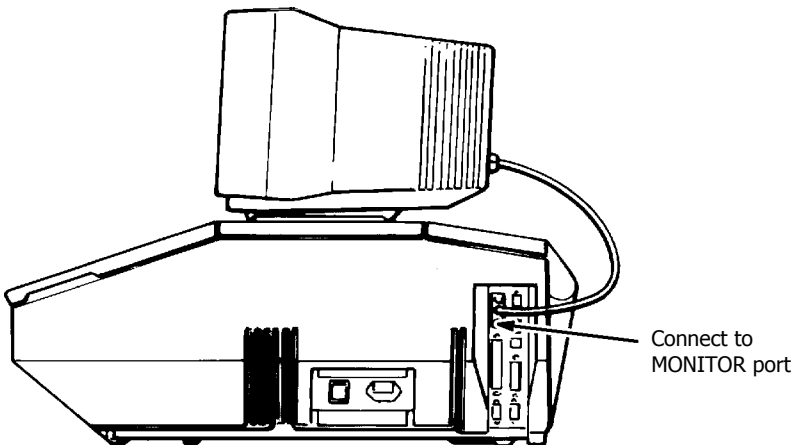

Figure 11 The Screen Connected to the Spectrum RX I
3. Connect the communication lead from the monitor into the **MONITOR** port on the right-hand side of the Spectrum RX I (Figure 11).